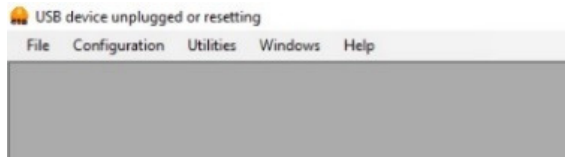

Fig 1. No Live Image Window and phrase “USB device unplugged or resetting” is shown.
1. One of the following messages in the upper left corner of Lumaview is observed (Figs 1 & 2).